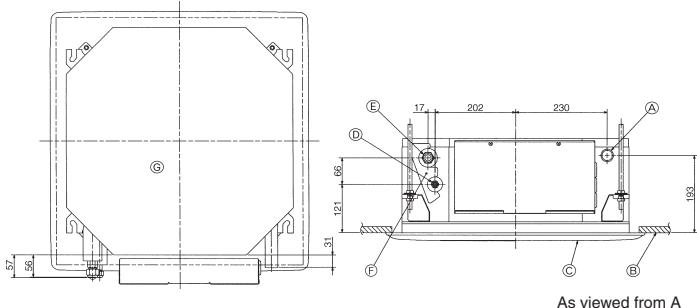

Fig. 3-1
3.1. Refrigerant and drainage piping locations of indoor unit (Fig. 3-1)
- (A) Drain pipe
- (B) Ceiling
- (C) Grille
- (D) Refrigerant pipe (liquid)
- (E) Refrigerant pipe (gas)
- (F) Water supply inlet
- (G) Main unit